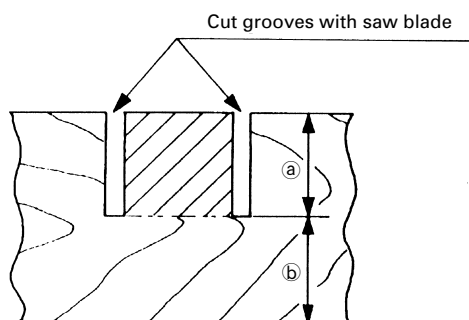

Fig. 33
Grooves in the workpiece can be cut as indicated in Fig. 33 by adjusting the 8mm depth adjustment bolt.
- (1) Loosen the 8mm wing nut and turn the 8mm depth adjustment bolt by hand.
- (2) Adjust to the desired cutting depth by setting the distance between the saw blade and the surface of the base (see Ⓑ in Fig. 33).
- (3) The 8mm wing nut must be properly tightened after the adjustment has been completed.